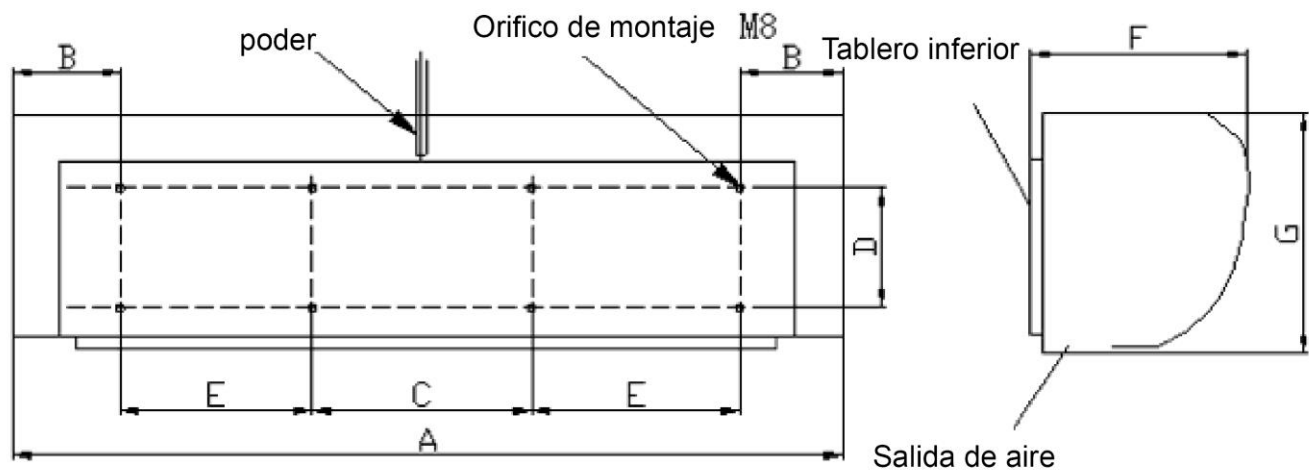

Figura 2
- (1) Dependiendo de las especificaciones las dimensiones de montaje varían, elija la posición (figura 2)
- (2) Splits out explodes bolt's hole which matches M8 to pull on the position, will pull explodes the bolt to fix on the concretes wall, simultaneously should protect bolt's swinging radius is 15mm. (picture 3)
- (3) With the gasket, the nut fasten the bottom, then install the complete machine (picture 4)